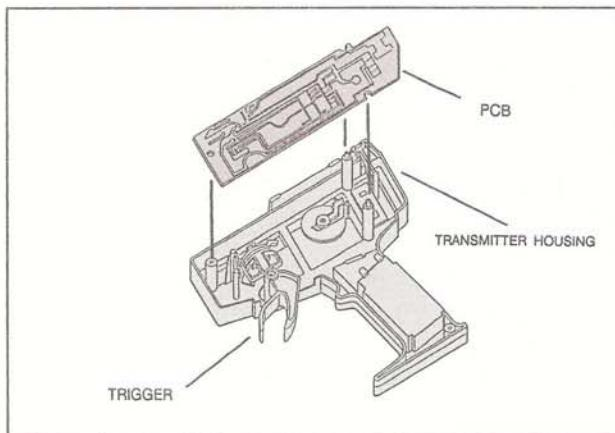

FIG. 68
- 3. Position the transmitter's PC board over the mounting posts on the right half of the transmitter housing (See Fig. 68).